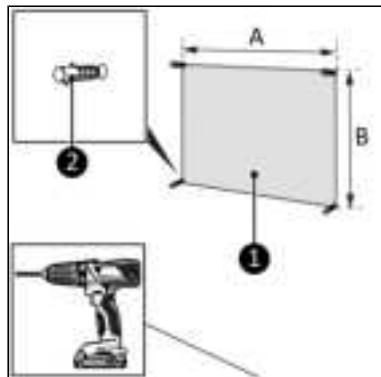

Figure 18.
4. Place the included assembly drawing (Figure 18, pos. 1) against the wall and mark the four holes.